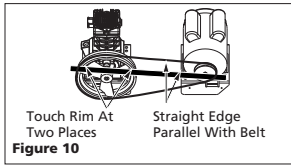

Figure 10
4. To align belt, lay a straightedge against the face of the flywheel touching the rim at two places (See Figure 10).
5. Adjust flywheel or motor pulley so that the belt runs parallel to the straightedge (See Figure 10).